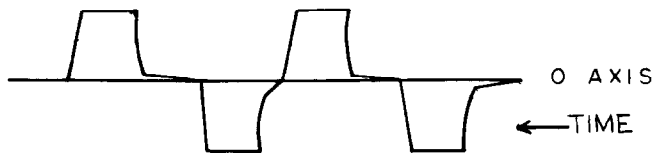

**Figure 3**
3. Observe the waveform across windings 3 and 4 of L1ST with an oscilloscope and compare with Figure 3.